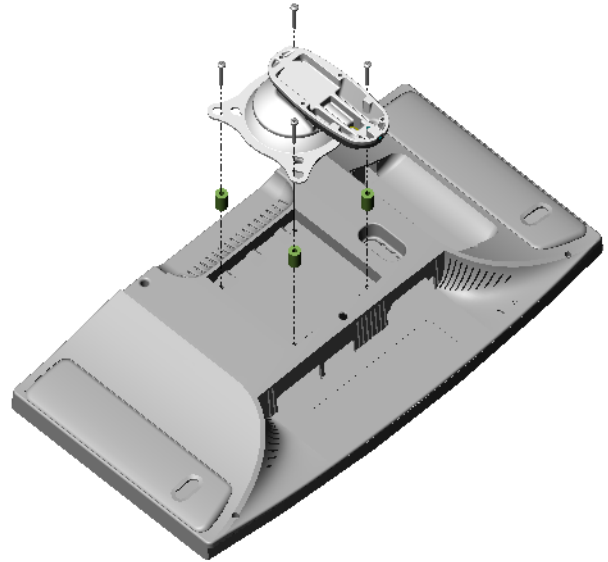

Figure 4. Recessed Mounting
- A. Place four 1/2" X 3/8" Nylon spacers or four 1/2" X 3/4" Nylon spacers, as necessary, over the mounting holes of your display (see Figure 4).